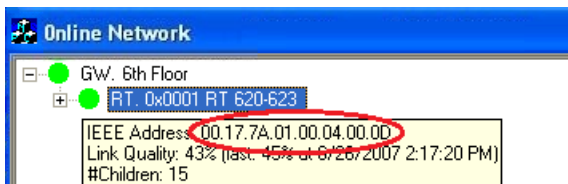

Figure 36
4. Complete the **IEEE Address**, which is also found in the **Online Network** tree of SysMon; see example in Figure 36 (hover with the cursor over the concerned node to show information about IEEE address etc).